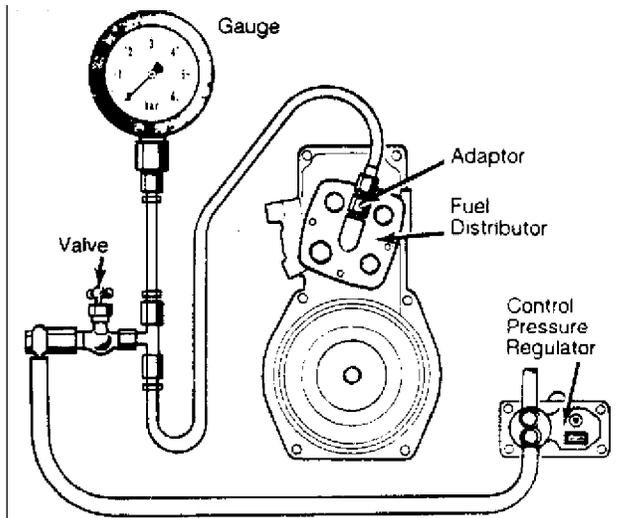

Fig. 5: Pressure Gauge Installation
2) Install a pressure gauge to perform fuel pressure tests. On all models, pressure gauge is installed between the control pressure regulator and the center fitting on fuel distributor. See Fig. 5.